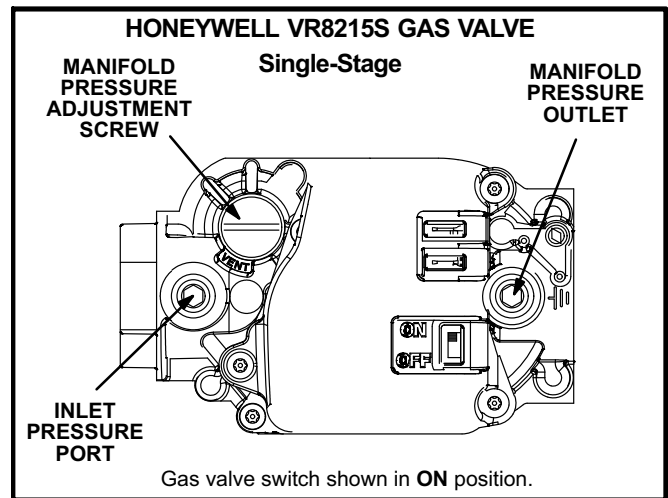

FIGURE 24
#### Gas Valve Operation (figure 24 and 25)
- 5- Move gas valve switch to **OFF**. See figure 24 or 25.
- 6- Wait five (5) minutes to clear out any gas. If you then smell gas, **STOP!** Immediately call your gas supplier from a neighbor's phone. Follow the gas supplier's instructions. If you do not smell gas, go to the next step.
- 7- Move gas valve switch to **ON**. See figure 24 or 25.